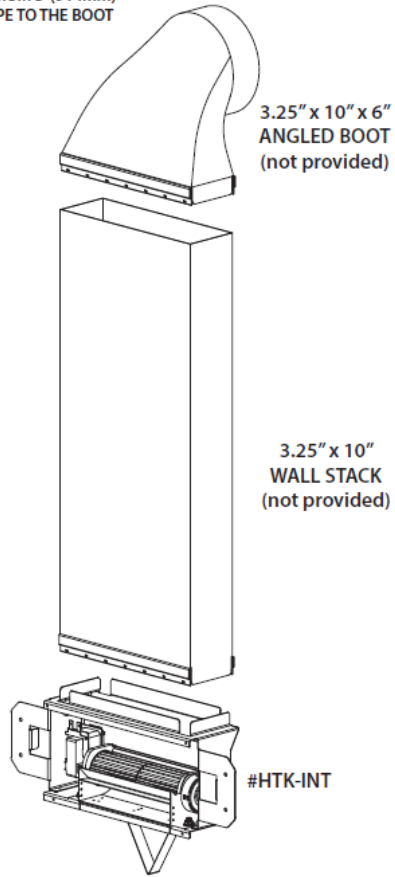

Figure 1.6, HTK-INT Wall Stack (optional installation)
- **Figure 1.6** (on the following page) shows an option installation method using 3.25" x 10" wall stack with S cleats attached to the air discharge box. The figure also shows an angled 3.25" x 10" x 6" angled boot that may be needed for certain applications. The wall stack application has to start after achieving the minimum run of insulated flex pipe to boot. The wall stack is 0" (0mm) clearance to combustibles. The wall stack and angled boot are not provided.